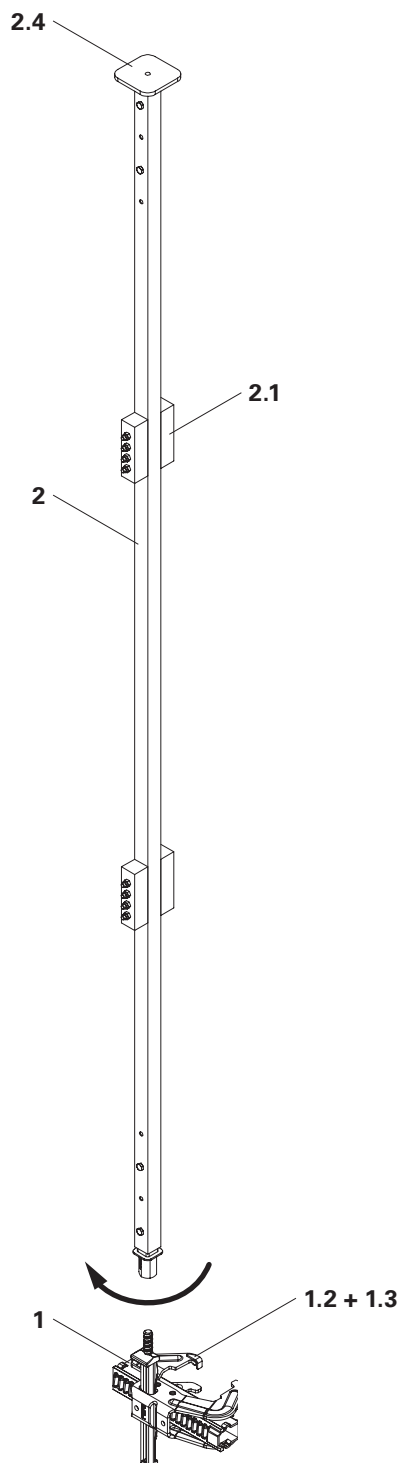
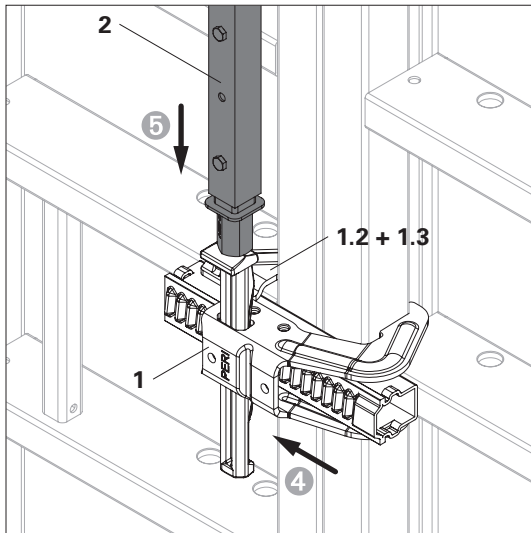
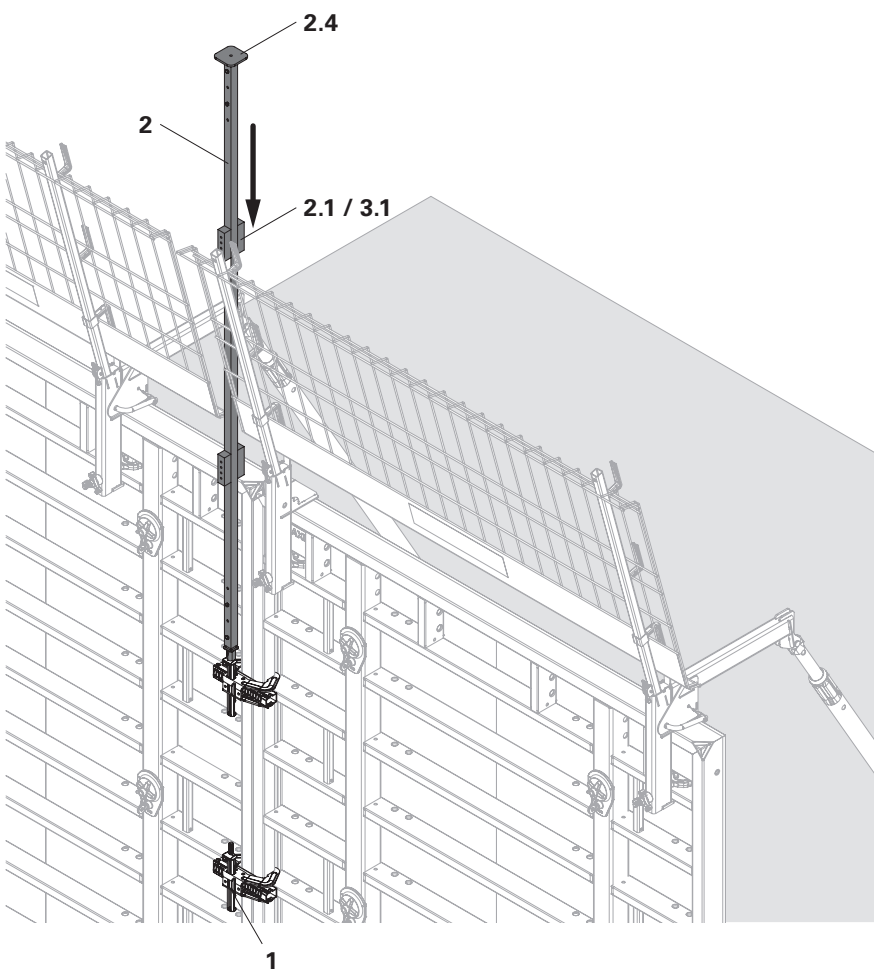

Fig. A3.04
Fig. A3.05
Fig. A3.06
- Installation sequence of the Panel Connection Clamp MX VS from bottom to top. (Fig. A3.06)
1. Screw Operate Bar MX VS (2) onto Panel Connection Clamp MX VS (1). (Fig. A3.04)
2. Position the Panel Connection Clamp MX VS (1) on the cross strut of the formwork joint.
3. Engage Panel Connection Clamp MX VS (1) until the hook (1.3) of the mounting bracket (1.2) hooks into the side profile.
4. Swing the Panel Connection Clamp MX VS (1) closed.
5. Secure the Panel Connection Clamp MX VS (1) with three hammer strikes on the Stop MX VS (2.4) and bracket (2.1).
6. Unscrew Operate Bar MX VS (2) from the Panel Connection Clamp MX VS (1). (Fig. A3.05 + Fig. A3.06)